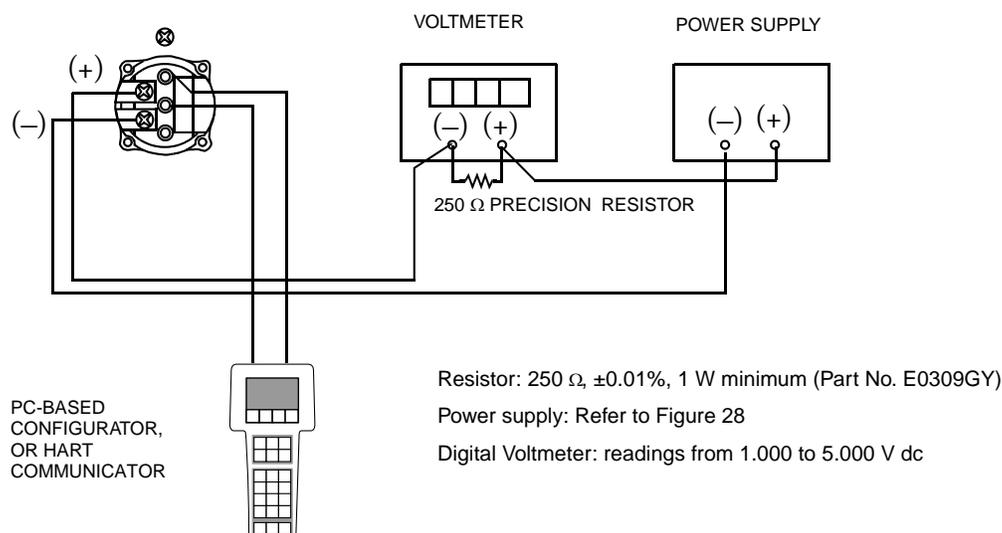

Figure 36. 4 to 20 mA Output Calibration Setup of Electronic Equipment
5. If calibrating the output signal, also connect equipment as shown in Figure 36.
If calibrating the output signal, also connect equipment as shown in Figure 36.